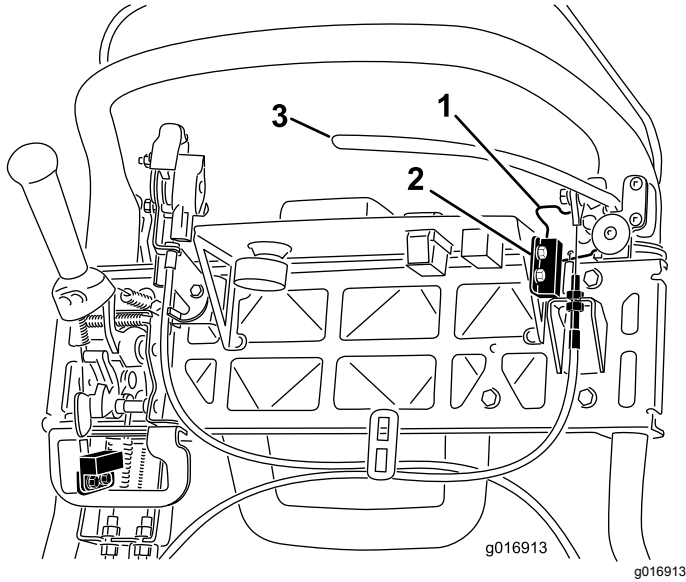

Figure 43
4. Loosen the interlock switch mounting fasteners (Figure 43).
5. Place a 1.6 mm (0.062 inch) thick shim between the parking brake latch and the interlock switch (Figure 43).